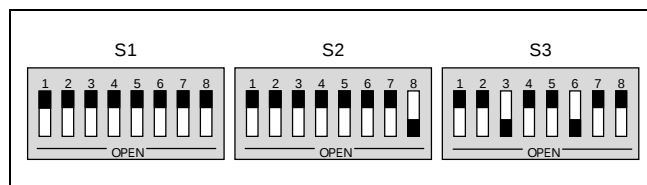

Figure 6 - Programming DIP Switch Settings
- Set the GETC DIP switches S1, S2, and S3 for the programming mode as shown in Figure 6. Set S2-8, S3-3 and S3-6 to OPEN. All other S3 positions should be CLOSED. Switches S1-1 thru S2-7 can be in any position and need not be changed. DIP switches S1-S3 are located near the front of the GETC Shelf, see Figure 4.